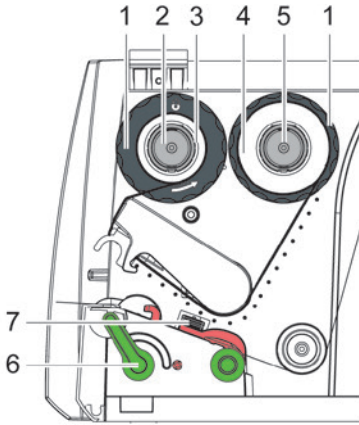

Fig. 12 Transfer Ribbon Feed Path
5. Adjust position of the guide on the take-up hub to the width of the ribbon core (3) and push ribbon core on the take-up hub.
6. Guide transfer ribbon through the printing unit as shown in Fig. 12.
**Attention!****► Guide transfer ribbon over the label sensor (7).**